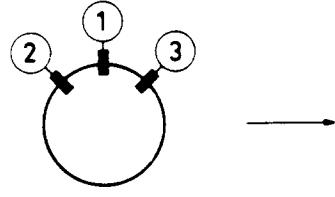

Fig. 4b
- Through the horizontal tilting of the deflection unit, both the horizontal blue and red lines in the upper and lower halves of the picture and the vertical blue and red lines on the left and right-hand side of the picture are placed on top of each other. If the deflection unit is in the correct position, then place the wedges ② and ③, remove the paper strips and firmly press the adhesive side of these wedges against the glass of the picture tubes as shown in figure 4b or 5b.